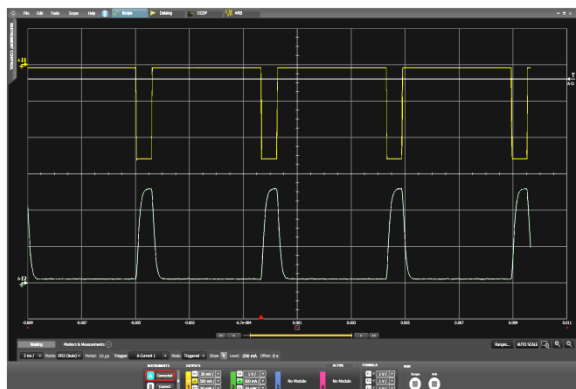

Figure 17: N6781A Pulsed Current Load Operation, Waveform Capture
Start the scope measurement by pressing the “Scope” run button. You should see a waveform capture like that shown in Figure 17.
- Also, as can readily be seen in the scope capture in Figure 17, the new N6781A has much greater measurement bandwidth than previous DC power modules available for the N6705B.